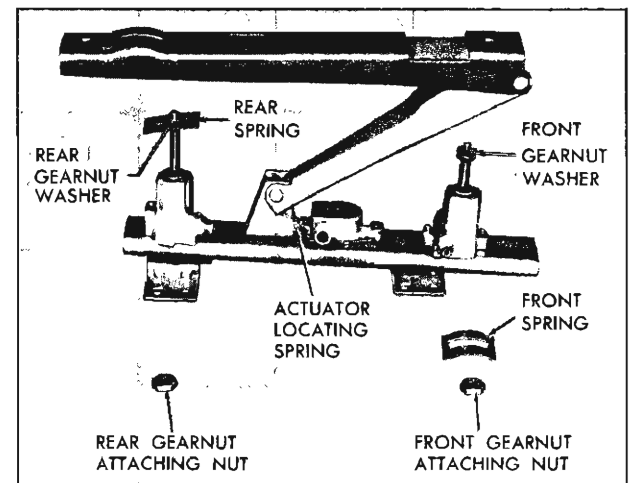

Fig. 107—6-Way Adjuster Gearnut
4. At top of adjuster, remove front and rear vertical gearnut attaching nuts (Fig. 107).
5. Remove front vertical gearnut spring (Fig. 107).
6. Lift upward on adjuster upper track; then remove rear vertical gearnut spring (Fig. 107).
IMPORTANT: Horizontal actuator is under tension from spring shown in Fig. 107. When installing actuator, be sure actuator locating spring is properly engaged with actuator assembly.
6. Remove front vertical gearnut spring. (Fig. 107).
8. If front vertical gearnut is being replaced with a new part, transfer gearnut washer to new gearnut assembly (Fig. 107).
5. At top of adjuster, remove rear vertical gearnut attaching nut. (Fig. 107).
6. Lift rear of channel upward and remove rear vertical gearnut spring (Fig. 107).
8. If rear vertical gearnut is being replaced with a new part, transfer gearnut washer to new gearnut assembly (Fig. 107).